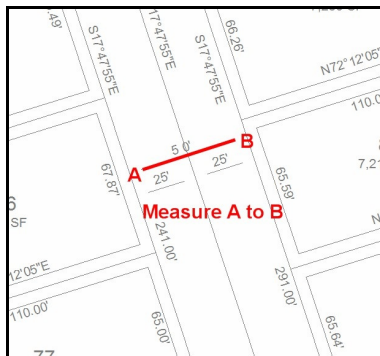

Figure 2
- Measure the distance between Point A and Point B in Figure 2.